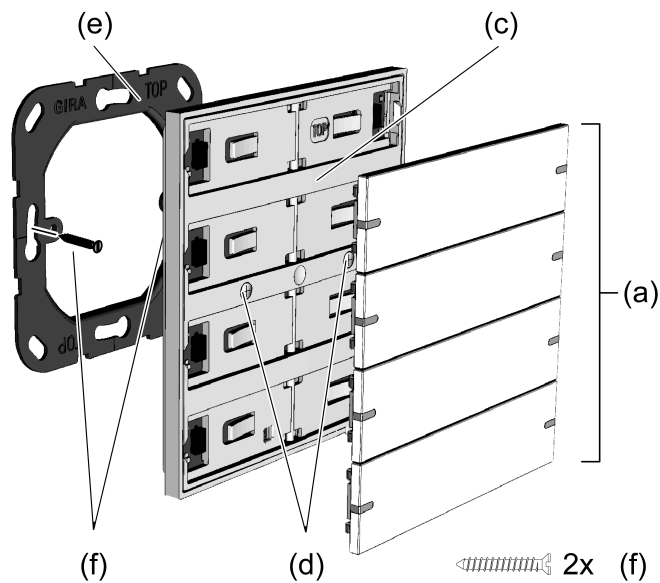
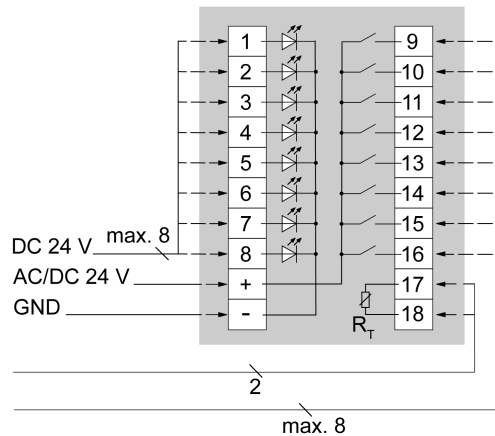

Figure 2: Fitting the device
Figure 3: Connection of 4-gang push-button sensor
Exploded view (see figure 2)
**Mounting and connecting the device (see figure 2), (see figure 3)**
- Connecting the push-button sensor (c) according to (see figure 3)